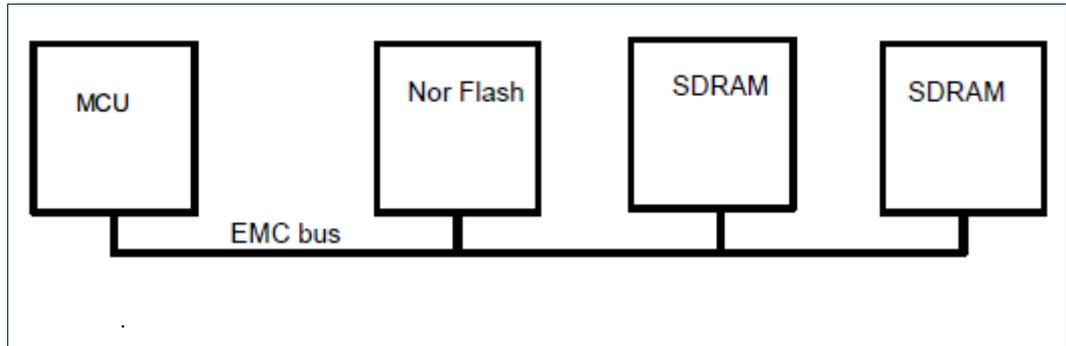

Fig 8. SDRAM signals without buffer
- In daisy-chain topology, place the MCU at one extreme end of the daisy-chain and the SDRAM at the other extreme end. Other devices can be distributed along the daisy-chain, see Fig 8: